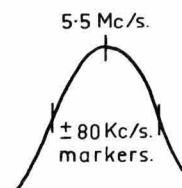

FIG. 5.
- Tune ICIF's 1 and 2 to 5.5 Mc/s as shown in Fig. 5.